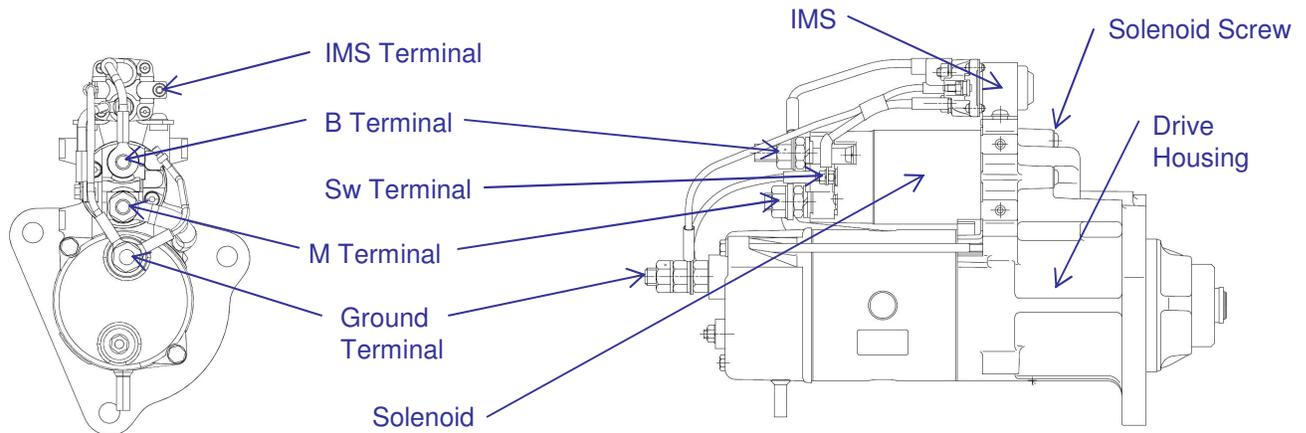

Figure 1: Starter Component Locations
- 2) Remove nuts from solenoid's M, B and Sw Terminals, and starter's ground terminal. These terminal locations are shown in Figure 1. Disconnect cables connecting solenoid to the motor and Integrated Magnetic Switch (IMS)
- 4) Re-connect wires as shown in Figure 1